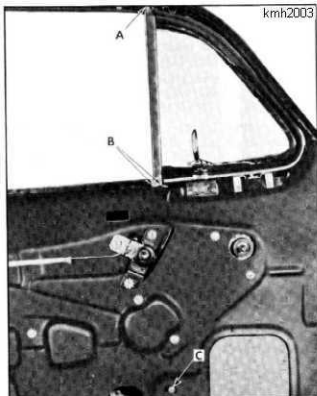

Fig. 3—Division Channel Attachment
2. Remove screw "A" (fig. 3) holding division channel to the ventilator at its upper end.
1. To adjust the lower end of channel forward or backward, loosen nut "C" (fig. 3) and move stud in slotted hole in inner panel the desired amount.